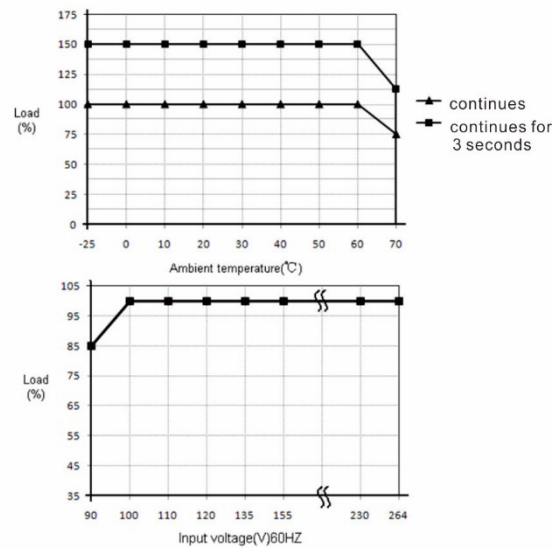

Figure 1 - Output derating curve
- The power reduction curve refers to **Figure 1**.